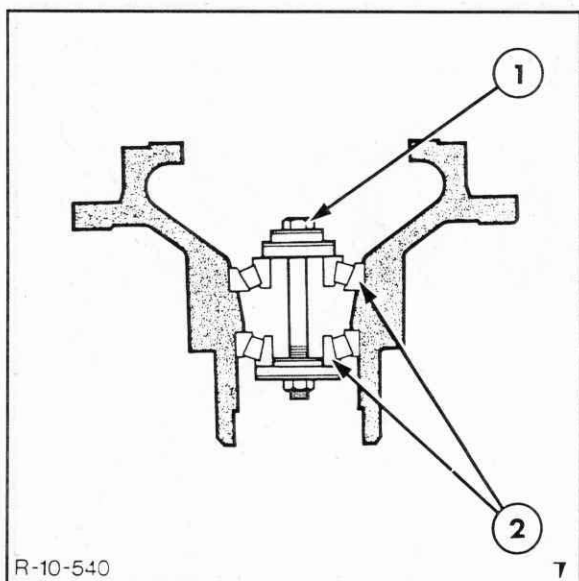

Figure 7-128
- a. Install the pinion bearings in the differential support housing, as shown in Figure 7-128, and lightly clamp the bearings using part of tool no. FT. 3135 (or 4775). Ensure the disc part of the tool with the cut-away side is uppermost. Tighten the clamp so that the bearing cones can just be turned by hand - do not overtighten.